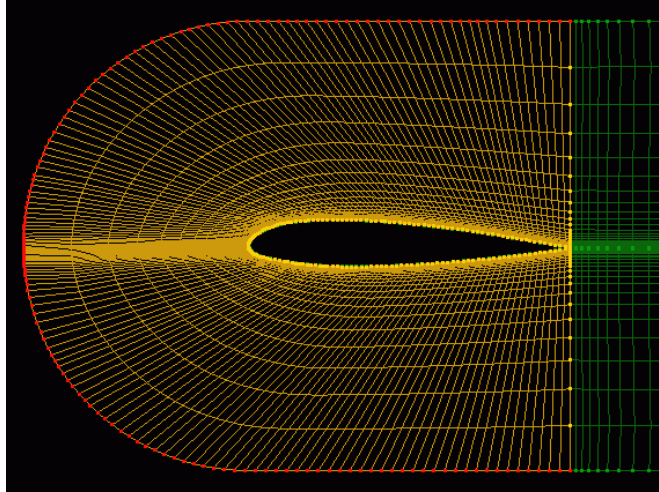

Figure 18. Block “near\_field\_001” with JMAX (outer) edge selected.
- Select the outer edge of this block as the current subcurve. There are two ways to do this. One is to select **Block→Next Edge** or <Ctrl>E multiple times until the desired edge is highlighted. The other way is to use **Boundary→Choose Subcurve** to select all the points on that edge. You may find this somewhat tricky, because if you click on a corner point, there are two edges it can choose from and the wrong one might be selected. One easy way to avoid this problem is to use the mouse to select a point on that edge that is close to the corner, and then use the arrow keys on the keyboard to extend the subcurve to the corner point. When you are done, the graphic window should look like Figure 18.